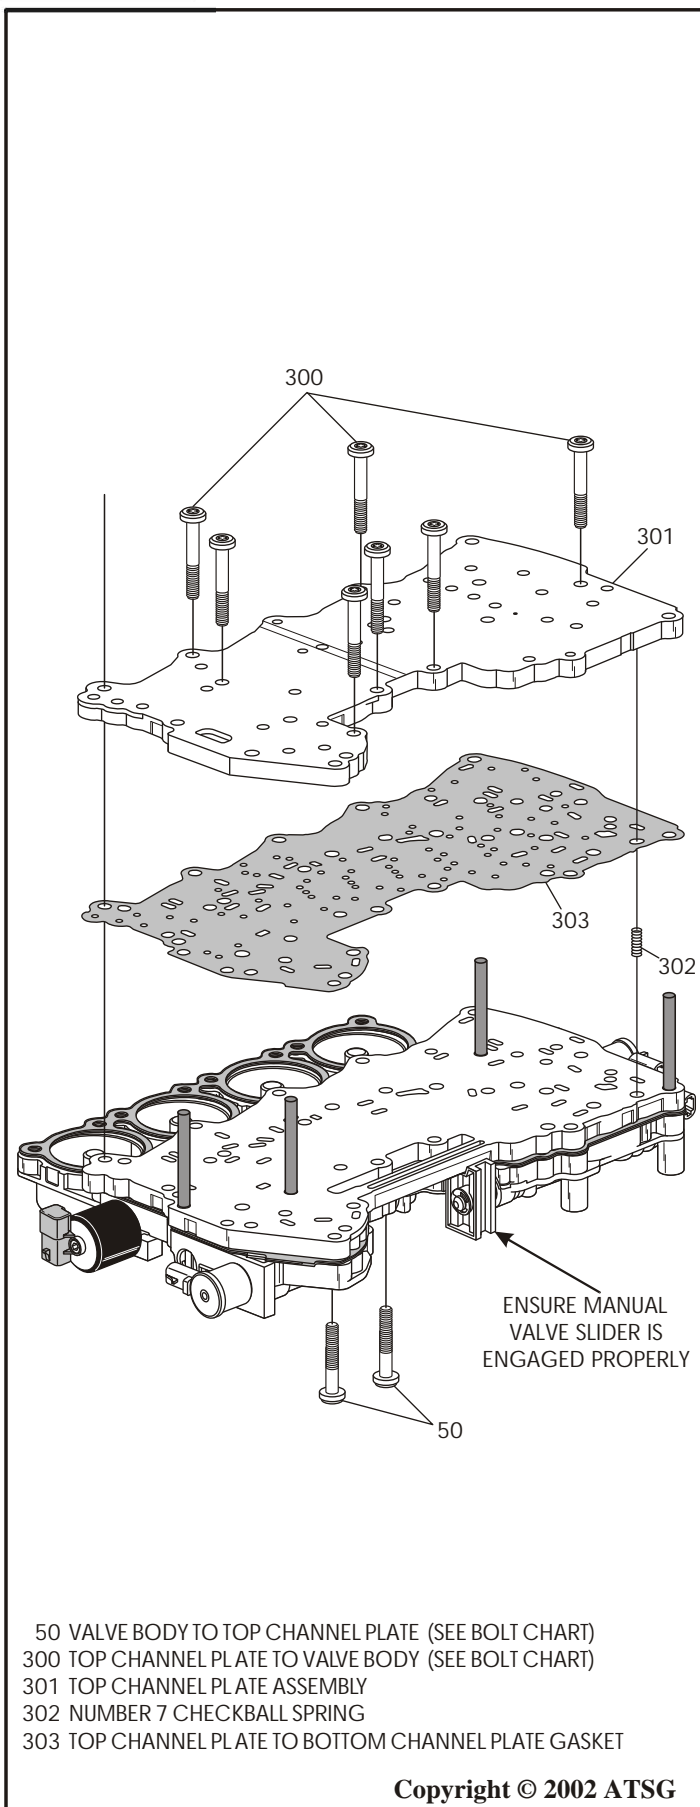

Figure 169
24. Ensure that the manual valve slider is engaged properly with the lower channel plate casting, as shown in Figure 169.
25. Install the top channel plate to bottom channel plate gasket over the guide pins, as shown in Figure 169.
26. Install the number 7 checkball spring (302) in the location shown in Figure 169.
27. Install the top channel plate casting over guide pins, as shown in Figure 169.
28. Install the 7 top channel plate to valve body bolts in the locations shown in Figure 169, and finger tighten only at this time.
29. Install the 2 valve body to top channel plate bolts from the bottom, as shown in Figure 169, and finger tighten only at this time.